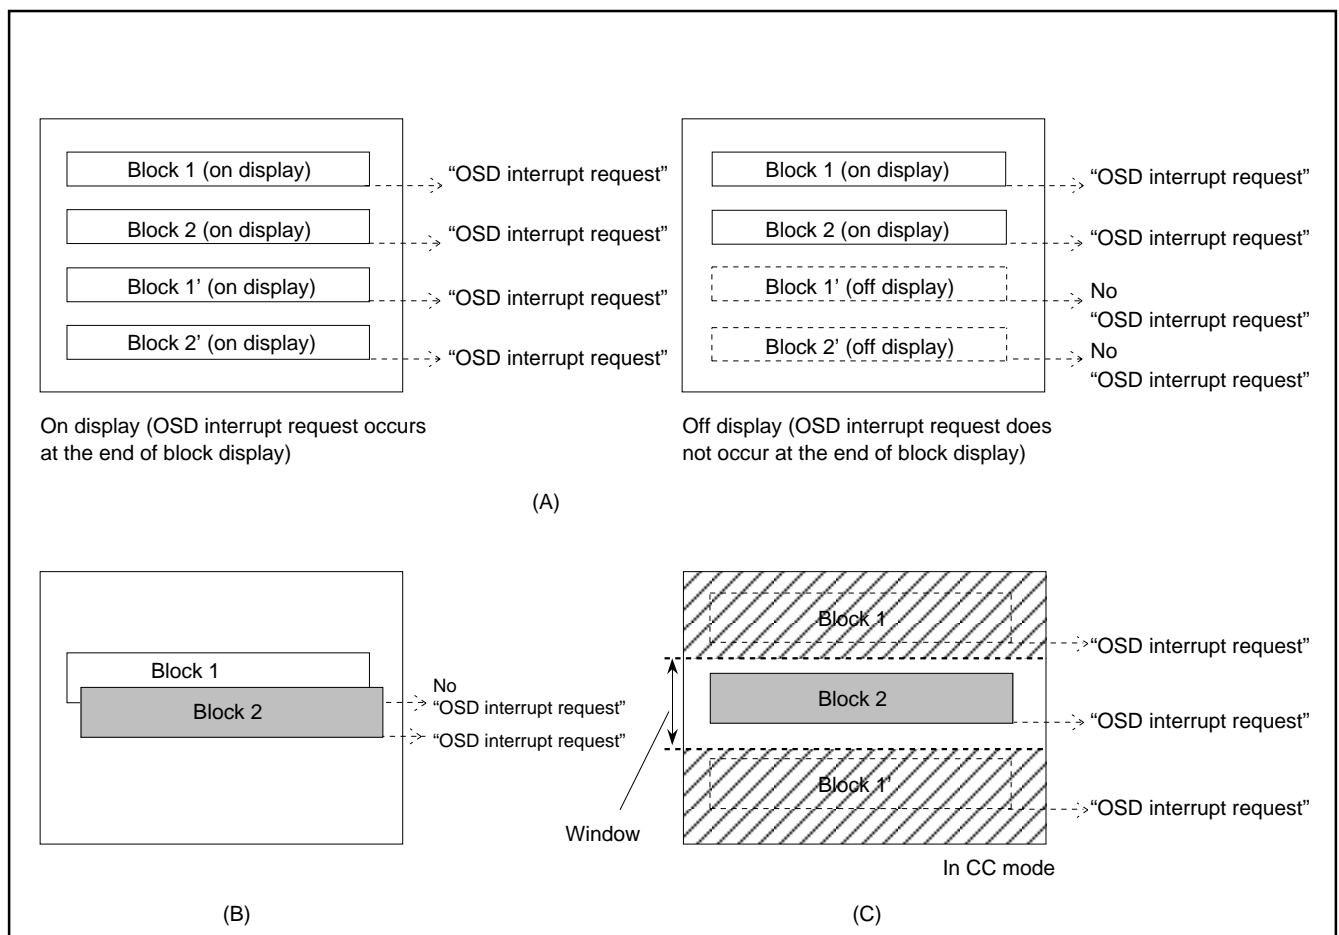

Fig. 8.11.23 Note on Occurrence of OSD Interrupt
- Notes 1:** An OSD interrupt does not occur at the end of display when the block is not displayed. In other words, if a block is set to off display by the display control bit of the block control register (addresses 00D2₁₆, 00D3₁₆), an OSD interrupt request does not occur (refer to Figure 8.11.23 (A)).
- 2:** When another block display appears while one block is displayed, an OSD interrupt request occurs only once at the end of the another block display (refer to Figure 8.11.23 (B)).
- 3:** On the screen setting window, an OSD interrupt occurs even at the end of the CC mode block (off display) out of window (refer to Figure 8.11.23 (C)).